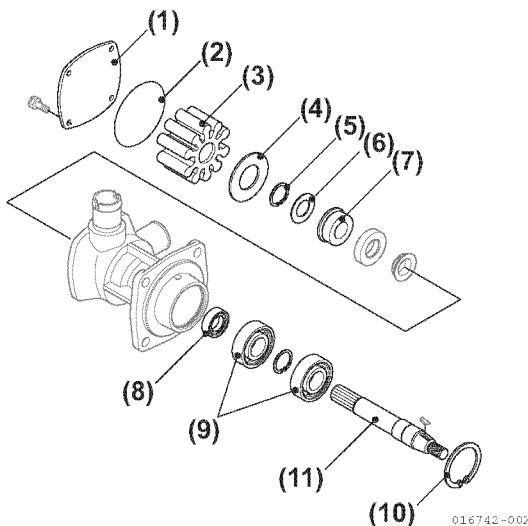

Figure 7-34
4. Remove four bolts, side cover (Figure 7-34, (1)) and O-ring (Figure 7-34, (2)).
5. Remove the impeller (Figure 7-34, (3)) and wear plate (Figure 7-34, (4)) from the housing.
6. Remove retainer, washer and mechanical seal (Figure 7-34, (5), (6), (7)).
7. Using pliers from drive gear side, remove retainer (Figure 7-34, (10)) which holds bearings (Figure 7-34, (9)).
8. Lightly tap pump shaft from impeller side and remove shaft and bearings as a set (Figure 7-34, (11), (9)).
9. Remove lip seal (Figure 7-34, (8)) and mechanical seal if necessary.
Note: When installing the new impeller, rotate the impeller clockwise to bend the vanes in the direction of rotation (Figure 7-34, (3)).
15. Install a new O-ring (**Figure 7-34, (2)**) and hold it in the groove using petroleum jelly.